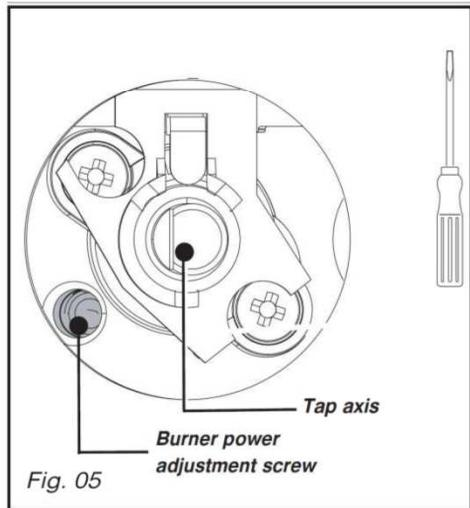

Fig. 05
- With a small flat-head screwdriver, **screw in all the way** the brass (yellow) burner power screws (*Fig. 05*), **in a clockwise direction**.
- Unscrew the brass (yellow) burner power screws (*Fig. 05*), using a small flat-head screwdriver, **turn twice counter-clockwise**.